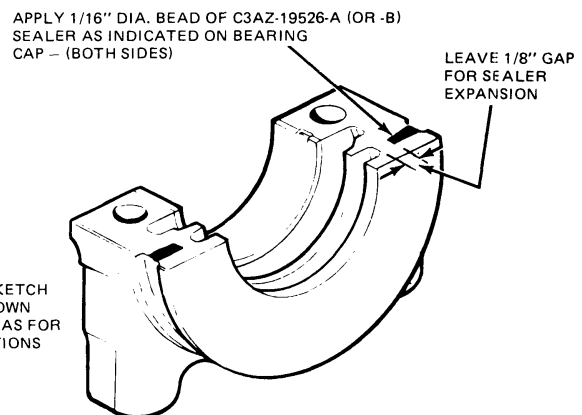

FIG. 19 Applying RTV Sealer to Main Bearing Cap and Block
1. Carefully clean the seal groove in the cap and block with a brush and solvent such as lacquer thinner, Ford Spot Remover, B7A-19521-A or equivalent, or trichlorethylene. Also, clean the area where sealer is later to be applied (Fig. 19). Dry the area thoroughly, so that no solvent touches the seal.
Be sure no rubber has been shaved from the outside diameter of the seal by the bottom edge of the groove. Do not allow oil to get on the sealer area (Fig. 19).
6. Apply an even 1/16 inch bead of RTV silicone rubber sealer, (C3AZ-19562-B or equivalent), to the areas shown on Fig. 19, following the procedure given in the illustration.